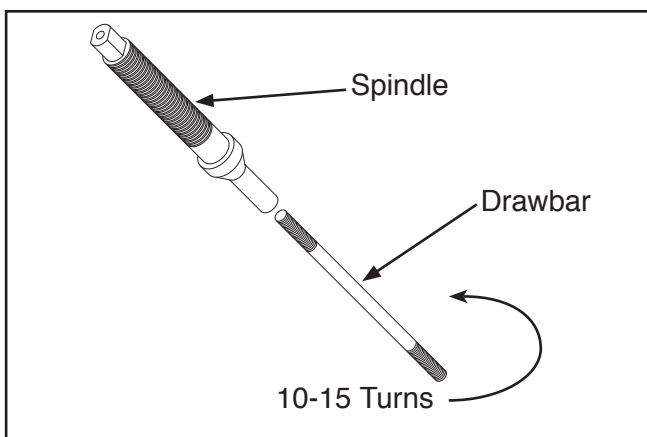

Figure 14. Spindle and drawbar.
2. Thread the drawbar approximately 10-15 turns into the bottom of the spindle. The drawbar has two threaded ends. One of them remains exposed (see **Figure 14**).